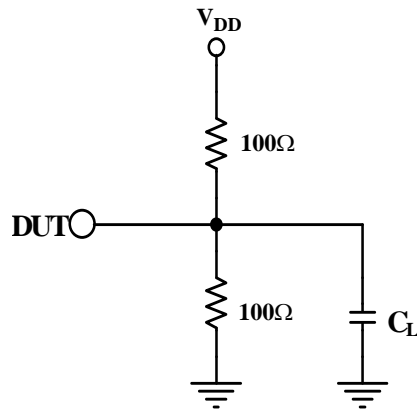

Figure 3.
- When measuring the dynamic supply current, all outputs are loaded in accordance with the equivalent test load defined in figure 3.
1. Test load = 40pF , terminated to $V_{DD} \div 2$. All outputs are equally loaded. Reference Figure 3 for clock output loading.